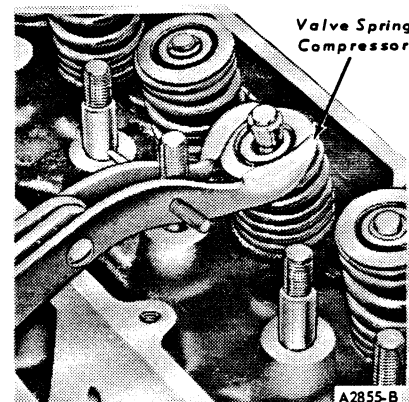

FIG. 61 Compressing Valve Spring on Bench
5. Compress the valve springs (Figure 61), then remove the valve spring retainer locks and release the spring.
- Compress the spring (Figure 61). Install the retainer locks.